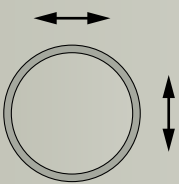

Figure 31
- The more carefully the concrete cover cap is aligned to the longitudinal and transverse axes, the more inconspicuous the items will be in the overall appearance (Fig. 31).